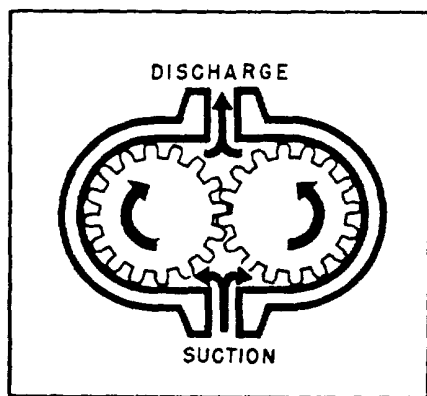

Figure 7-9.—Simple gear pump.
**GEAR PUMPS.**—The simple gear pump (fig. 7-9) has two spur gears that mesh together and revolve in opposite directions. One is the driving gear, and the other is the driven gear. Clearances between the gear teeth (outside diameter of gear) and the casing and between the end face and the casing are only a few thousandths of an inch. As the gears turn, the gears unmesh and liquid flows into the pockets that are vacated by the meshing gear teeth. This creates the suction that draws the liquid into the pump. The liquid is then carried along in the pockets formed by the gear teeth and the casing. On the discharge side, the liquid is displaced by the meshing of the gears and forced out through the discharge side of the pump.